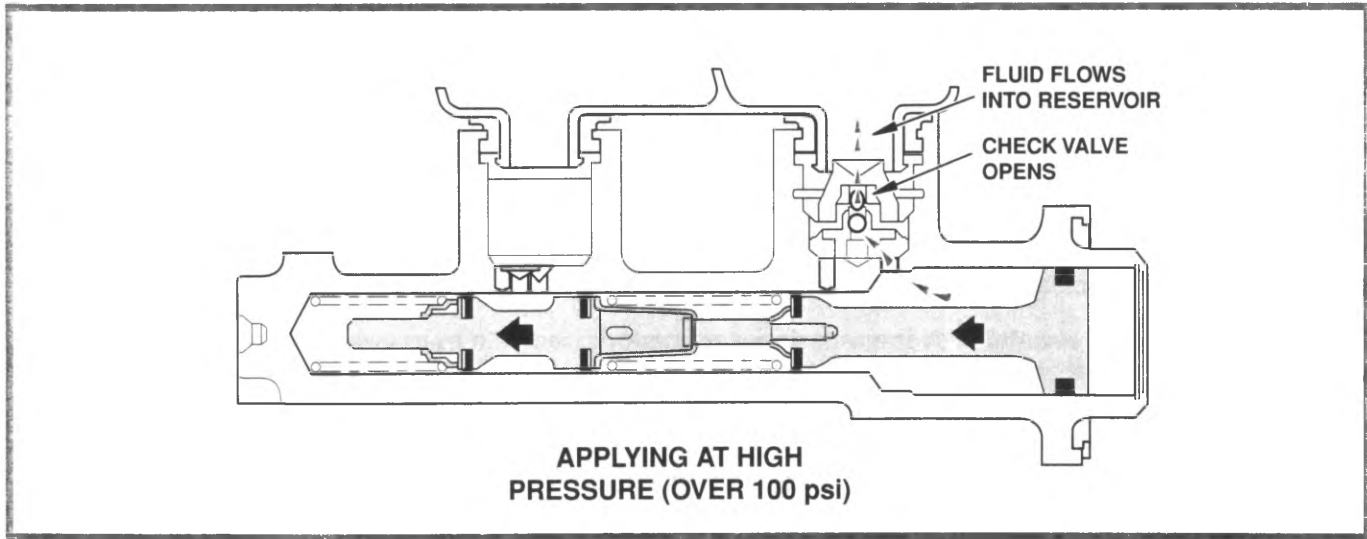

Figure 4-6, **Applying at High Pressure**
- When the low-pressure chamber reaches about 100 psi, the spring-loaded check ball in the quick take-up valve opens, allowing brake fluid into the reservoir (figure 4-6)